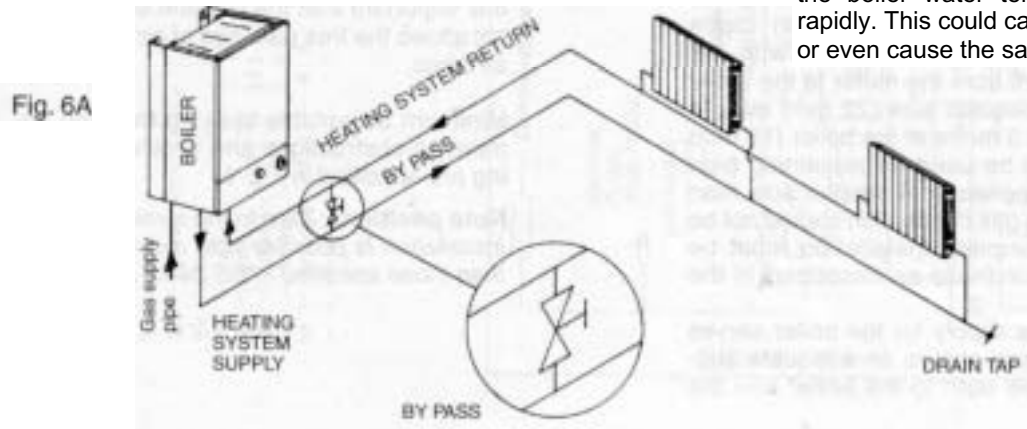

Fig. 6A
4.8.3 The water through the appliance heat exchanger circuit must exceed the min. 1.84 gals/min. (503 lt/h) when the burner is firing. It is important to ensure that this rate is achieved when sections of the system are shut off either manually or by automatic controls. Therefore **a by-pass must be fitted to the system (15 mm min.) (Fig. 6A).**